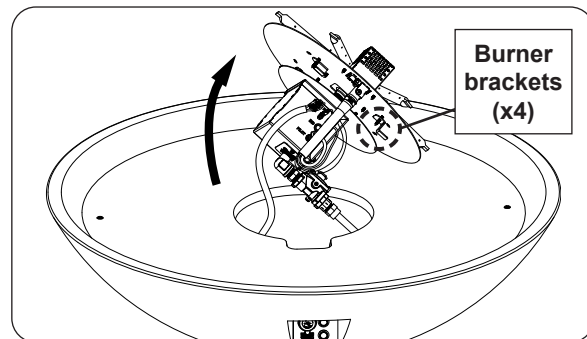

Fig. 49-1 Gain access to interior (if needed)
1. The burner will need to be partially removed. Remove all media. Use a $\frac{5}{16}$ " nut driver to partially unfasten the 4 screws found on the burner assembly. Then carefully lift out the burner and set it off to the side. See Fig 49-1.